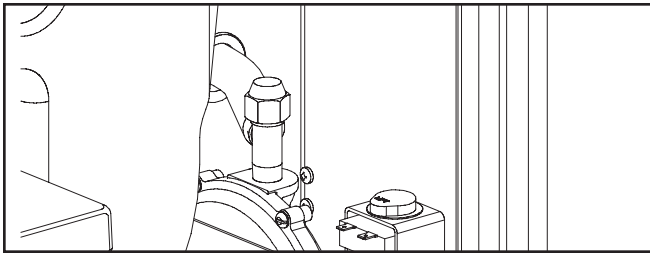

Figure 13 — T - Valve
4. Remove cap from LP inlet on T-valve (Figure 13).